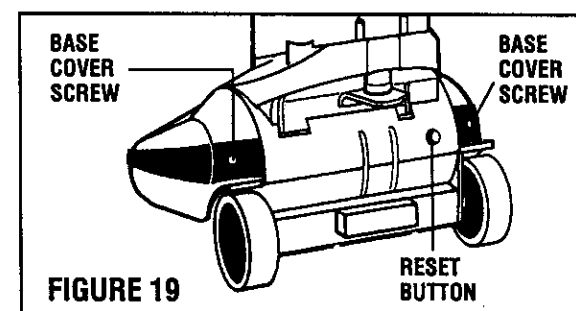

FIGURE 19
Before the machine can be switched on again, the Reset Button must be pressed in. (Figure 19)
2. Press the Reset Button if the Overload Protection System has shut the machine down. (Figure 19)
8. Press the Reset Button if the Overload Protection System has again shut the machine down. (Figure 19)
15. Press in the Reset Button if the Overload Protection System has once again shut the machine down. (Figure 19)
18. Unscrew the two screws which are located in the bumper at the rear of the Lower Base Cover. (Figure 19)